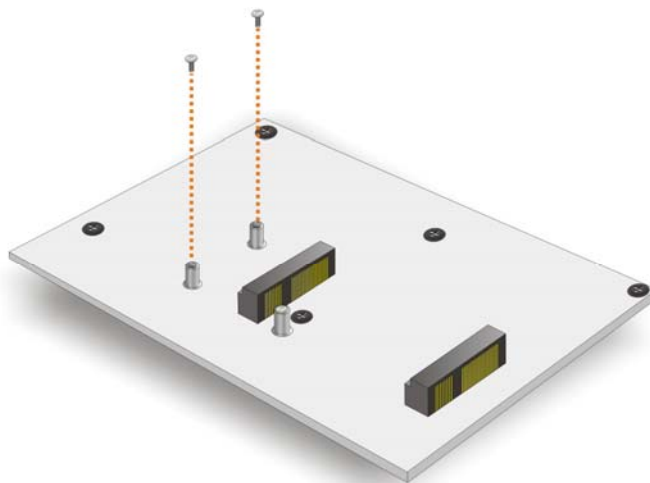

Figure 4-15: Remove the Retention Screws for the Half-size PCIe Mini Card
Step 2: Remove the retention screws. Remove the two retention screws secured on the motherboard as shown in **Figure 4-15**.